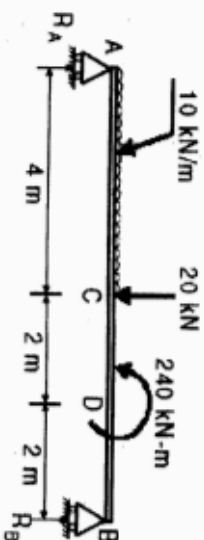

Figure 3
5. Draw the shear force and bending moment diagram for the beam shown in figure 3.